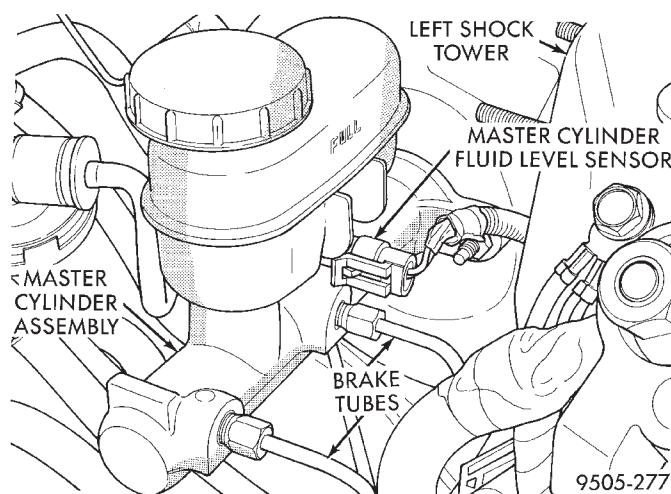

Fig. 97 Master Cylinder Brake Fluid Level Sensor
(7) Remove the vehicle's wiring harness connector from the master cylinder brake fluid level sensor (Fig. 97).
- (7) Install the vehicle's wiring harness connector on the master cylinder brake fluid level sensor (Fig. 97).